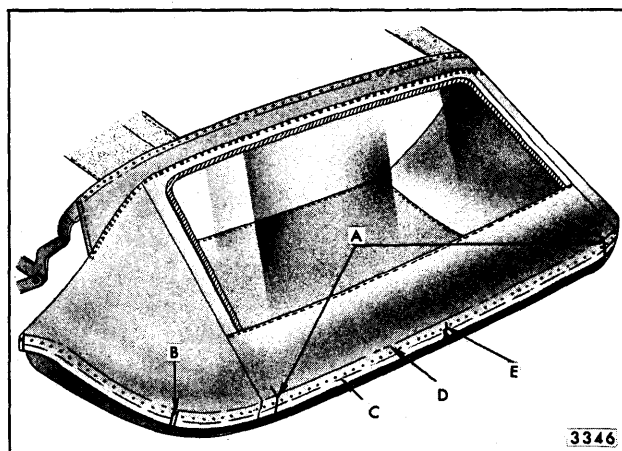

Fig. 13-53—Back Curtain Installation
2. Transfer reference marks from removed back curtain to new one as follows: Place new back curtain on clean covered bench with inner surface down. Position removed back curtain correspondingly over new one. Carefully align upper window over lower one. While holding both curtains together securely, carefully lay out trim material of both curtains and transfer following reference marks along bottom: location of trimstick(s) (upper and lower trimstick edges, as well as ends); location of inner vertical edges of top cover; On "F" and "Z" styles, location of bolt holes. Allow 1/2 inch of back curtain material to extend below trimstick(s) (Fig. 13-53 and 13-54).